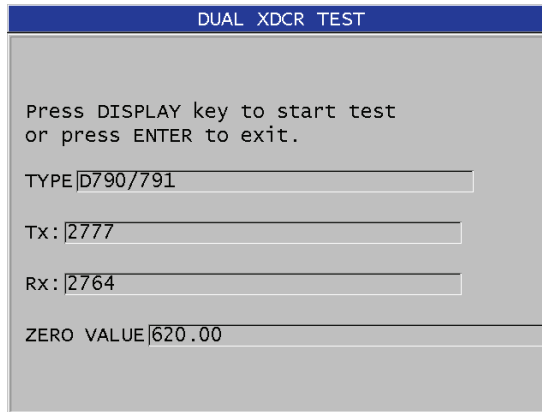

Figure 15-3 The DUAL XDCR TEST screen
7. When **DUAL XDCR TEST** is selected, in the **DUAL XDCR TEST** screen (see Figure 15-3 on page 267):